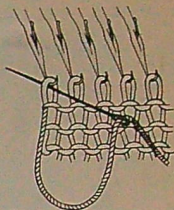

Fig. 63
- 1) Thread the needle with yarn three times the length of the garment to be bound off. Insert the needle into the first stitch as shown in Fig. 63.